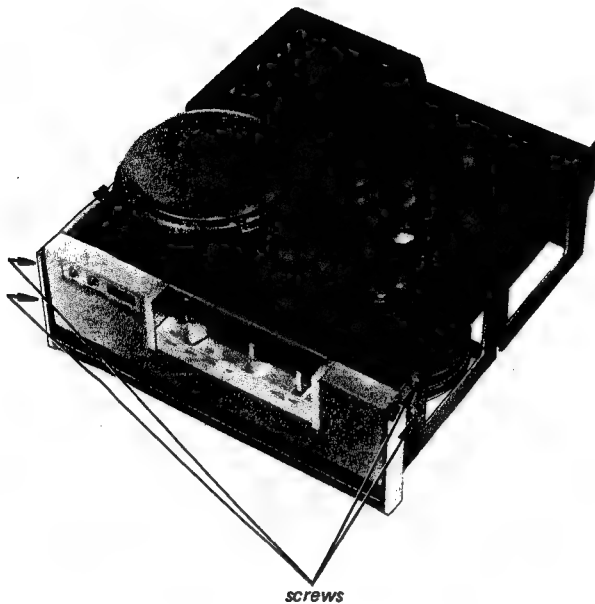

Fig. 7-22
2. Remove the front control panel by removing four screws shown in Fig. 7-22.